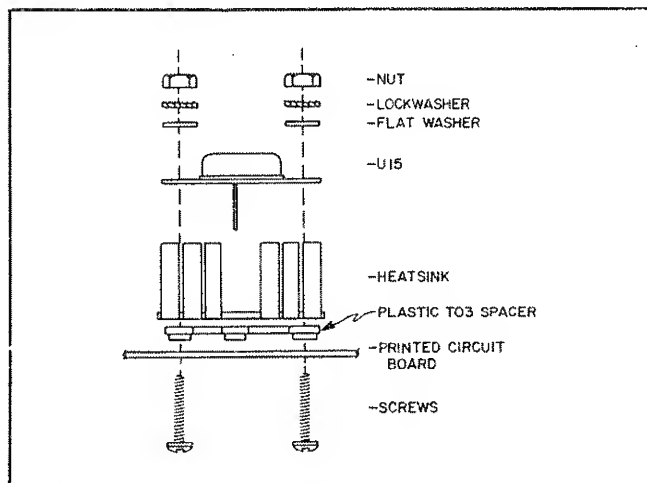

Figure 5-12. A2U15 Mounting Hardware
*When replacing U15, you must spread a thin layer of heatsink compound between U15 case and heatsink. Do not use any compound containing silicone. An organic zinc oxide cream, such as American Oil And Supply Company Heatsink Compound #100, is recommended. See Figure 5-12 for location of mounting hardware.*